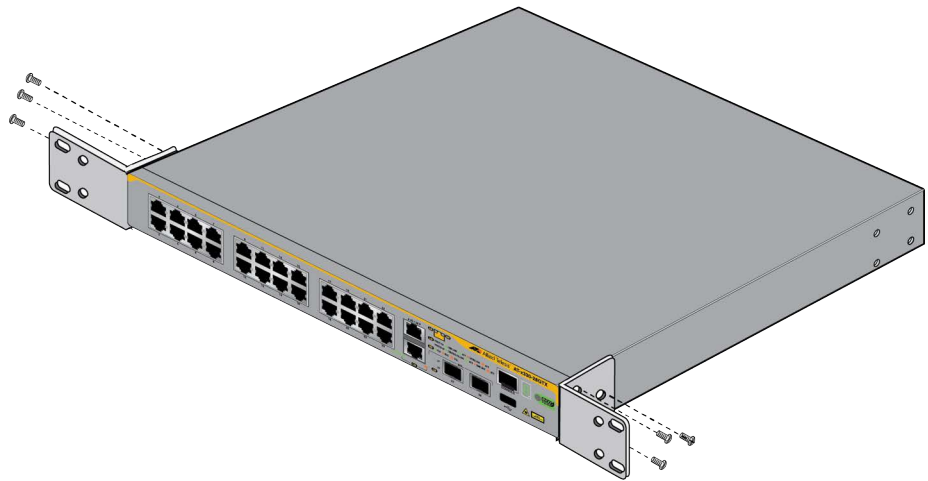

Figure 41. Attaching the Equipment Rack Brackets to the x330-28GTX Switch
2. Attach the equipment rack brackets to the sides of the switch with the six 4x8mm screws included with the device. The brackets can be installed on the switch only one way. Refer to Figure 41.